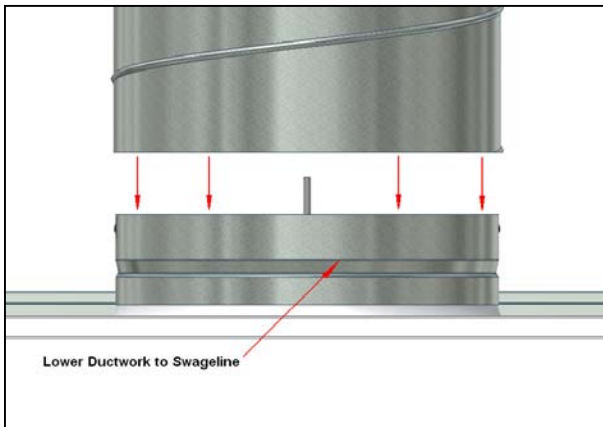

Figure 13: lower the Ductwork
- a. Lower the Ductwork on the Drop Rods to allow it to slide over the exterior of the Duct Collar. Continue this until it reaches the swage line as shown in figure 13. Anchor it in position using the lock nuts on the supporting Drop Rods.